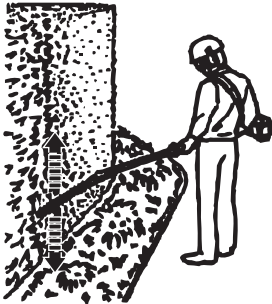

Fig. 13
1. Make sure that the blade cover (14) is removed, and the battery pack (15) is assembled before operation.
4. Carry the product with the harness (17).
6. Always hold the product firmly with both hands on soft grip (8a) of the front pole (8) and the rear handle (11). Never operate this product using only one hand.
8. First cutting both sides from the bottom upwards to the top. This will prevent any of the cuttings falling into the path of the area still to be cut (Fig. 13).